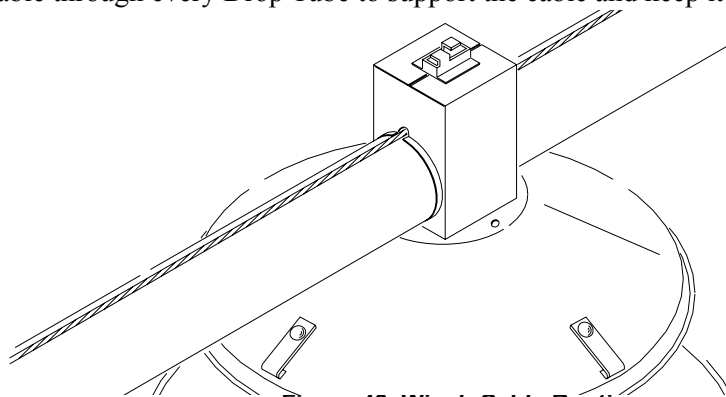

Figure 43. Winch Cable Routing
4. Thread the cable through every Drop Tube to support the cable and keep it in position, see figure 43.